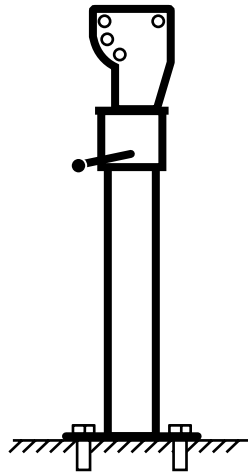

Fig. 2
2. Install the swivel head (Fig. 2) on the mast, make sure it sits all the way in. Use the provided brake lever to prevent the swivel head from rotation during assembly.